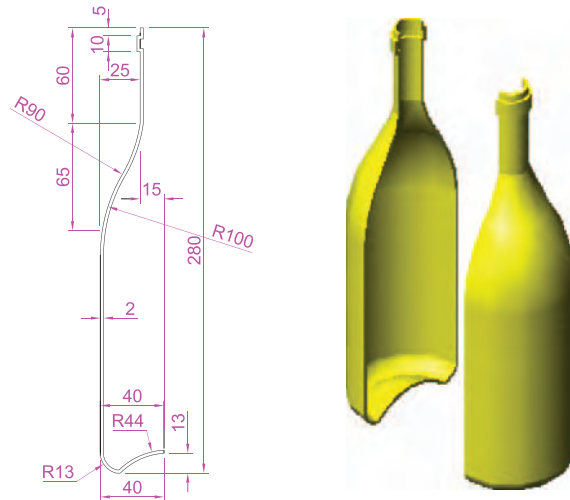

Fig. 14.25 Second example – Slice
Second example – **Slice** (Fig. 14.25)
1. Construct the closed pline (left-hand drawing in Fig. 14.25) and with the **Revolve** tool, form a solid of revolution from the pline
The right-hand illustration in Fig. 14.25 shows the result.